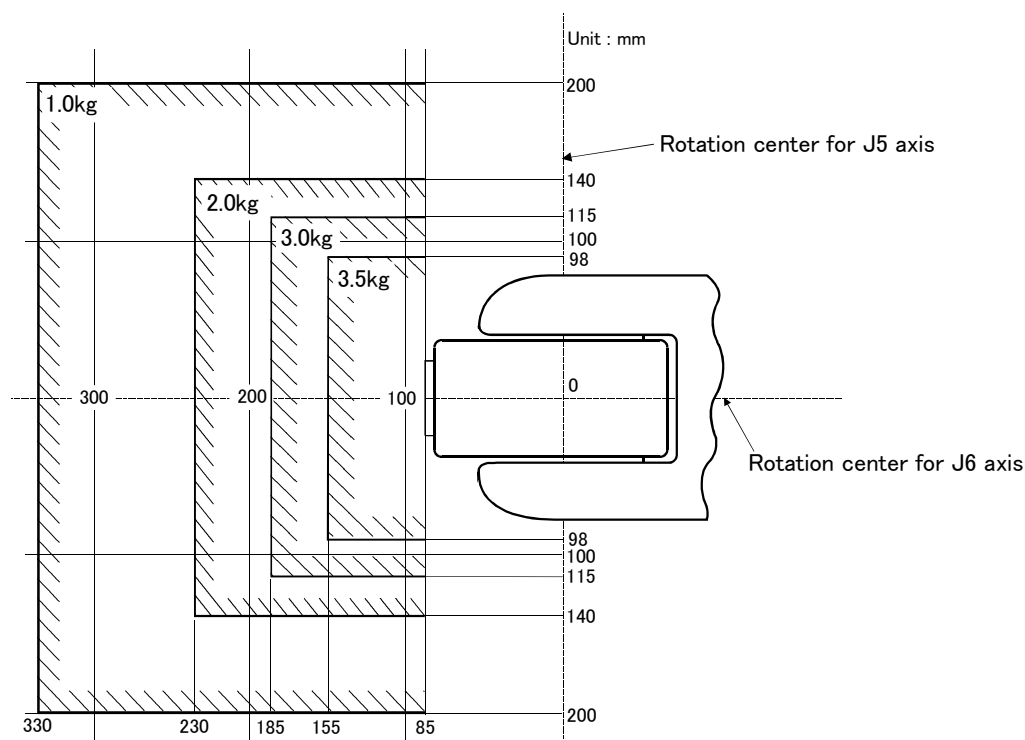

Fig.2-1 : Position of center of gravity for loads (for loads with comparatively small volume)
- (1) The tooling should have the value less or equal than the smaller of the tolerable inertia and the tolerable moment found in Page 9, "Table 2-1 : Tab Standard specifications of robot"
- (2) Fig. 2-1 shows the distribution dimensions for the center of gravity in the case where the volume of the load is relatively small. Use this figure as a reference when designing the tooling.
- (3) When the load is not mass, but force, you should design the tooling so that it does not exceed the value for allowable moment described in Page 9, "Table 2-1 : Tab Standard specifications of robot"